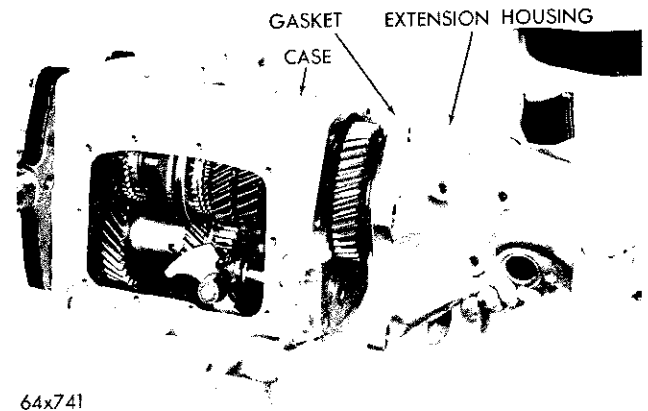

Fig. 32—Removing or Installing Extension Housing and Mainshaft Assembly
(1) Remove the bolts that attach the extension housing to the transmission case.
(2) Slide the third and fourth synchronizer sleeve slightly forward, then using a soft hammer, tap on the extension housing (in a rearward direction). Slide the housing and mainshaft assembly out and away from the case, (Fig. 32).